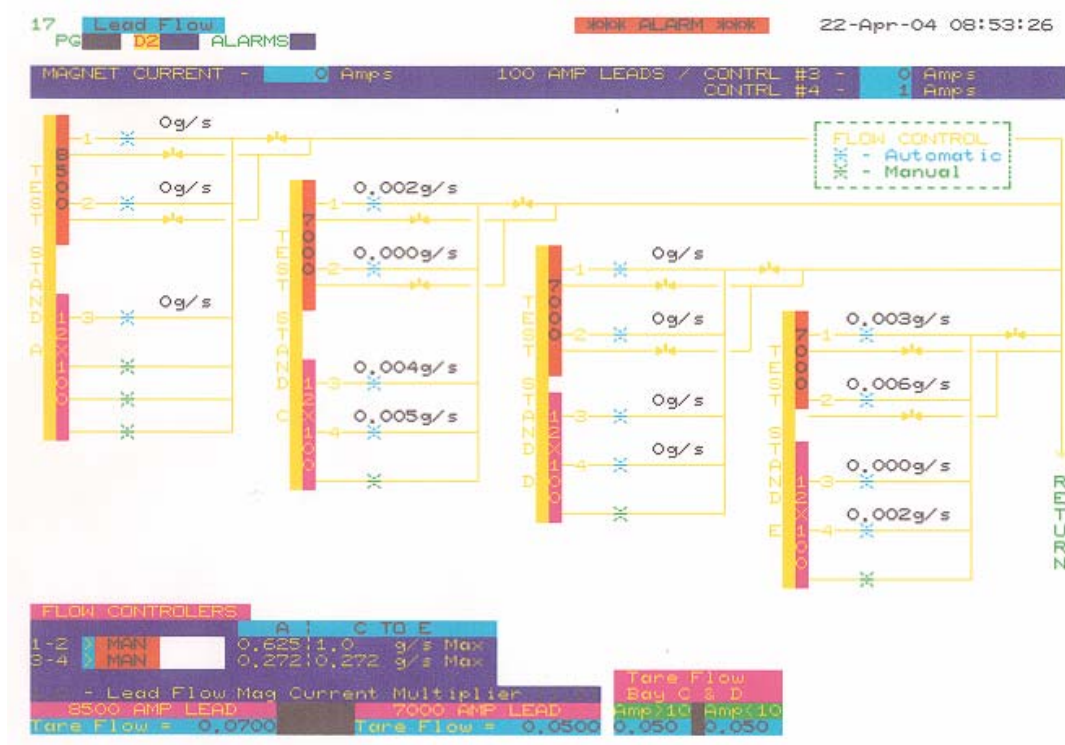

Figure 2. Display of control page D17 for Lead Flow Controllers in Bay D and E.
5.13 Installing Test and Measure will activate your LEAD FLOW CONTROLLERS in control page D17 as shown in Figure 2.